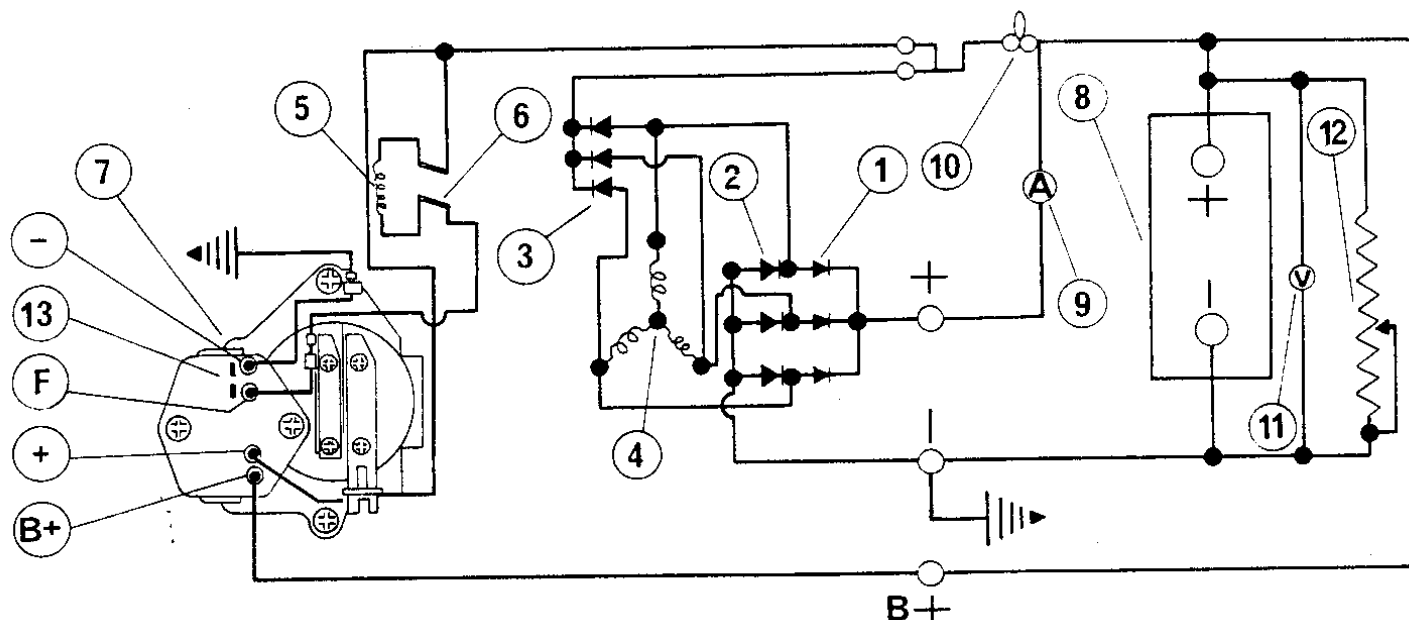

Figure 9 Alternator output test circuit
2. Connect an exterior test circuit as shown in **Figure 9**. Observe carefully the polarity of the battery and alternator terminals.